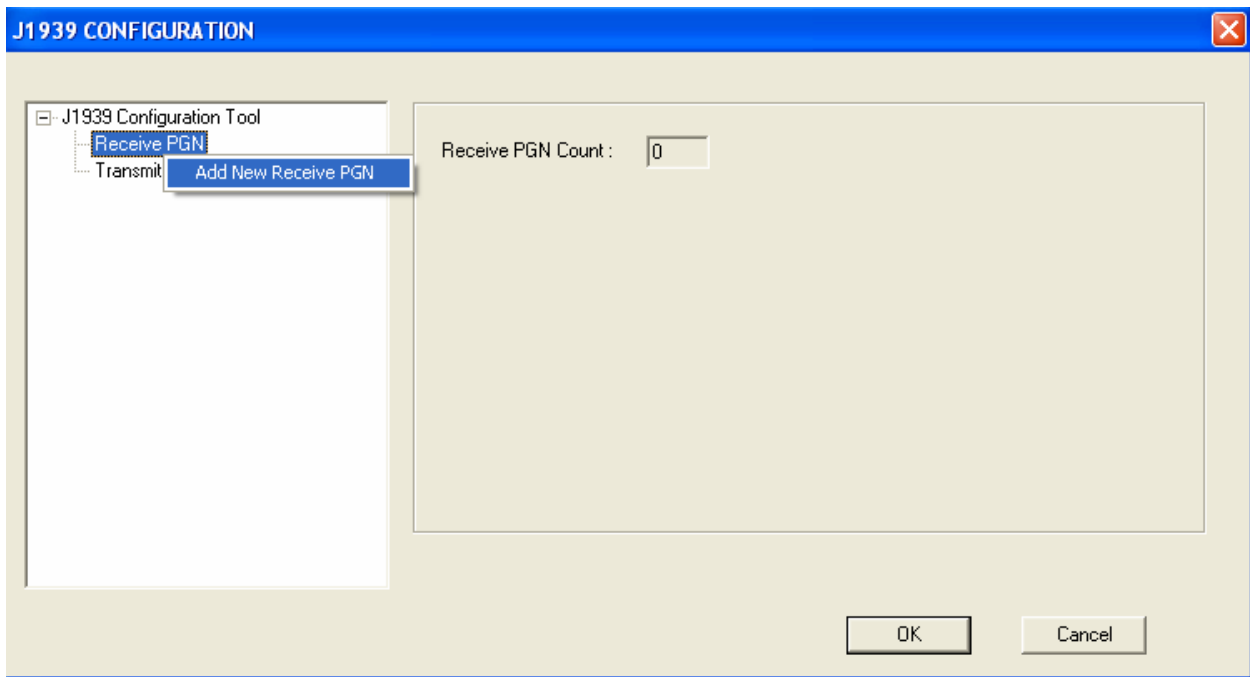

Figure 3.4 – Add New Receive PGN
3. To configure Receive PGN, Right click on Receive PGN and select “Add New Receive PGN” as shown in Fig 3.4.